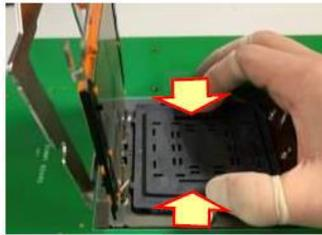

Figure 18-1
- (1) Use thumb and forefinger to hold the removal tap of PnP Cap. (Fig.18-1)